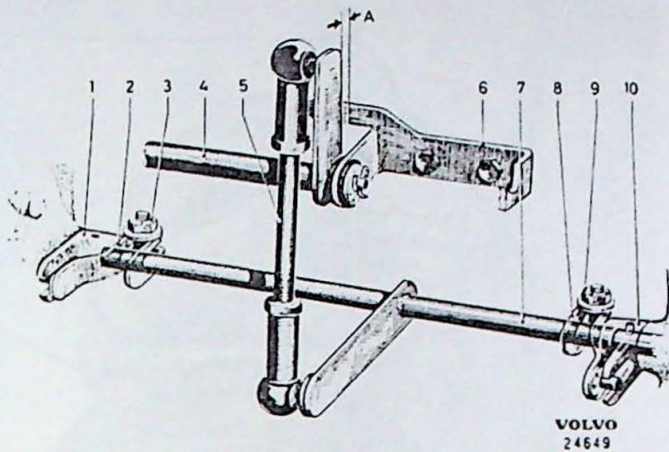
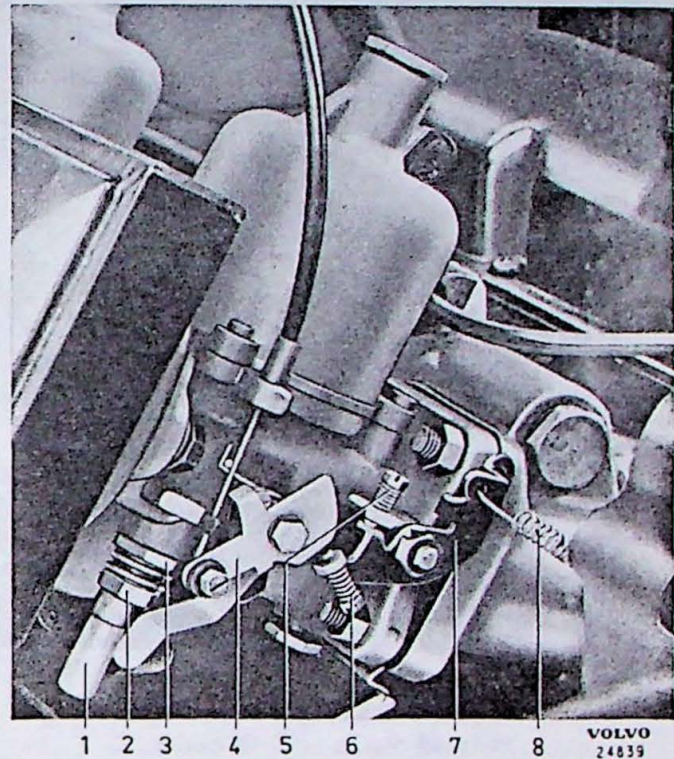

Fig. 1-78. Intermediary shaft and levers
Fig. 1-79. Adjustment of controls
2. Press the intermediary shaft in position between the carburetors, see Fig. 1-78. See that the shield plate is in good condition and that the sealing faces are clean.
1. Place a feeler gauge 0.5 mm (0.02") thick at "A" in Fig. 1-78 between the lever and its stop. Screw out the idling screws (5, Fig. 1-79) so that the throttle is completely closed.
2. Loosen the nuts (3 and 9, Fig. 1-78) and press the levers (2, 8) on the intermediary shaft carefully downwards so that the flange pins just come into contact with the lower tooth on the throttle spindle levers (1, 10).
1. Roughly adjust the height of the jet by first screwing up the adjuster nut (2, Fig. 1-79) to its upper position and then by screwing down one complete turn.
2. Turn the idling screws (5) so that they just touch the throttle levers while the throttle is closed. Then screw them down one turn.
4. Start the engine. Adjust the speed to 600—800 r.p.m. by means of the idling screws (5). Turn the screws so that the air intake sound is equally strong on both carburetors. Run the engine warm.
5. Adjust the height of the jet (and thereby the fuel/air relationship) carefully by turning the adjuster nut (2). The best position is attained when the highest engine speed is reached without altering the idling screw. When adjusting, screw the adjuster nut first slowly downwards (richer mixture) until the engine starts to run unevenly and then slightly upwards (leaner mixture) so that the engine runs evenly. Adjust the carburetors one at a time.
2. Lift the lever (4, Fig. 1-79) so much that the jet is just influenced. Stretch and secure the cable in this position. The adjustment should be identical for both the front and rear carburetors.
3. Screw in the rapid idling screw (6) until it just touches the cam-shaped part of the lever (4) and then turn it a further half turn. Adjust the rapid